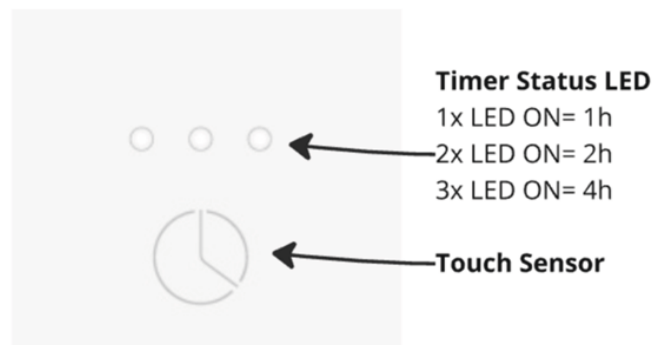

Fig. 5: Touch sensor
2. Use the touch sensor (see Fig. 5) to set the desired running time (1, 2 or 4 hours).